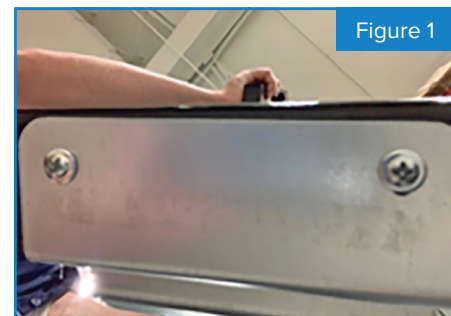

Figure 1
- Remove the bracket from the bottom of the doors (Figure 1). If this bracket is not removed, it can scratch the paint from the top of the front grill.